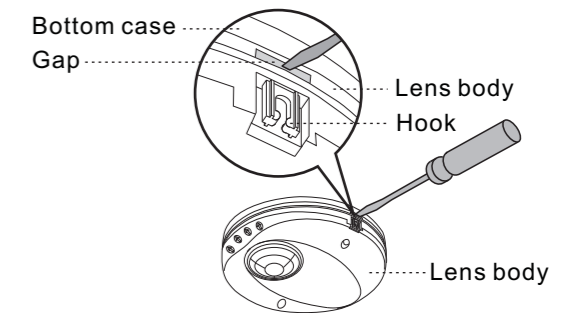

FIG.9
- 3.3.2 Dismantle lens body from bottom case by a screw-driver to be aimed at the gap (See FIG.9).